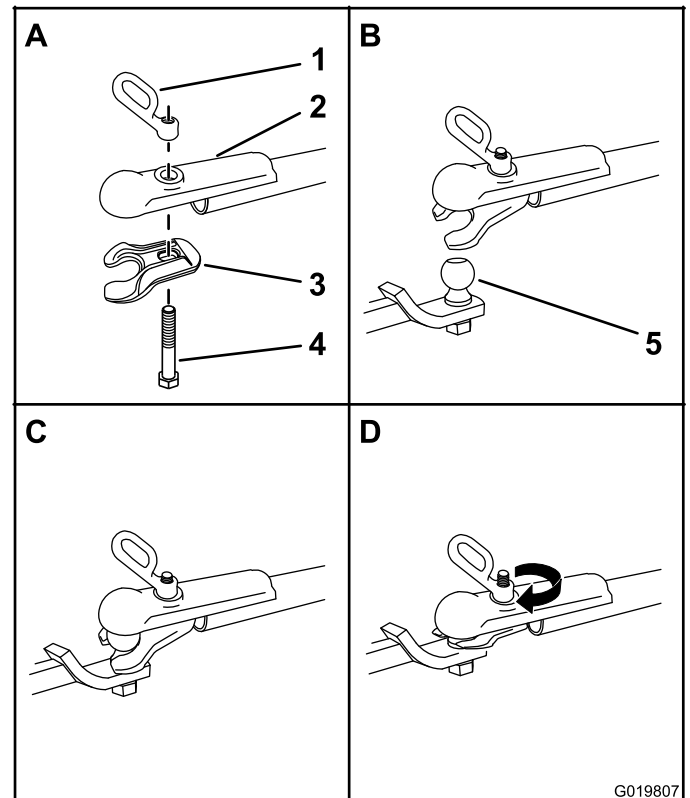

Figure 23
1. Apply removable thread-locking compound to the threads of the coupler bolt to prevent the coupler handle from coming loose (Figure 23).
3. Push the coupler bolt up through the coupler clamp and the coupler top, and connect the coupler handle to the bolt (Figure 23).
5. Turn the coupler handle clockwise to thread it onto the bolt until it is secure (Figure 23).